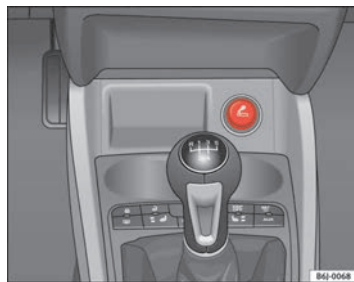

Fig. 80 Lighter
- Press on the cigarette lighter ⇒ fig. 80 to activate it ⇒ ⚠.